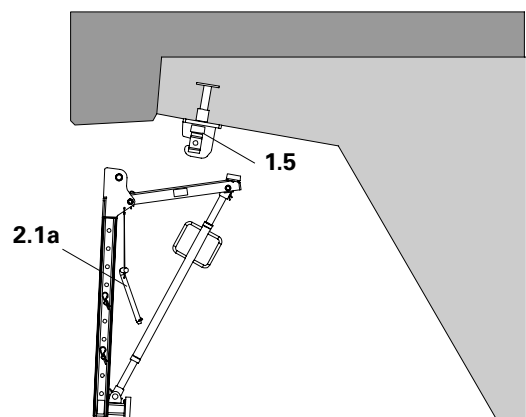

Fig. C3.04
1. Remove locking pins (2.1a) on the Suspension Head (1.5) and detach bracket unit. (Fig. C3.04)